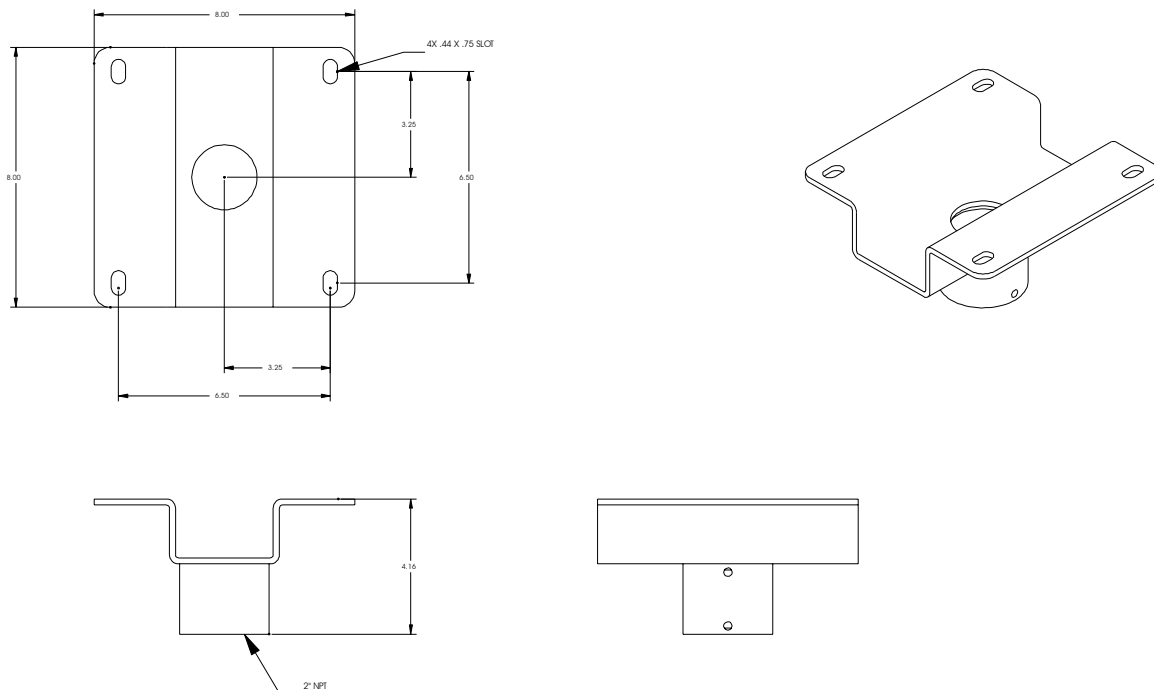

Figure 1. CMA-332 Dimensions
1. Securely install ceiling plate to ceiling joists. (SEE WARNING ABOVE) Bolt hole spacing is shown on Figure 1.